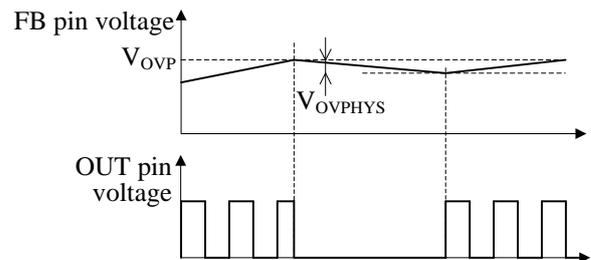

Figure 8-11 Overvoltage protection waveforms
time shown in figure 8-11 is given by Equation (1), and it depends on L_p and C_v .
Figure 8-11 shows the waveforms of Overvoltage Protection (OVP) operation.